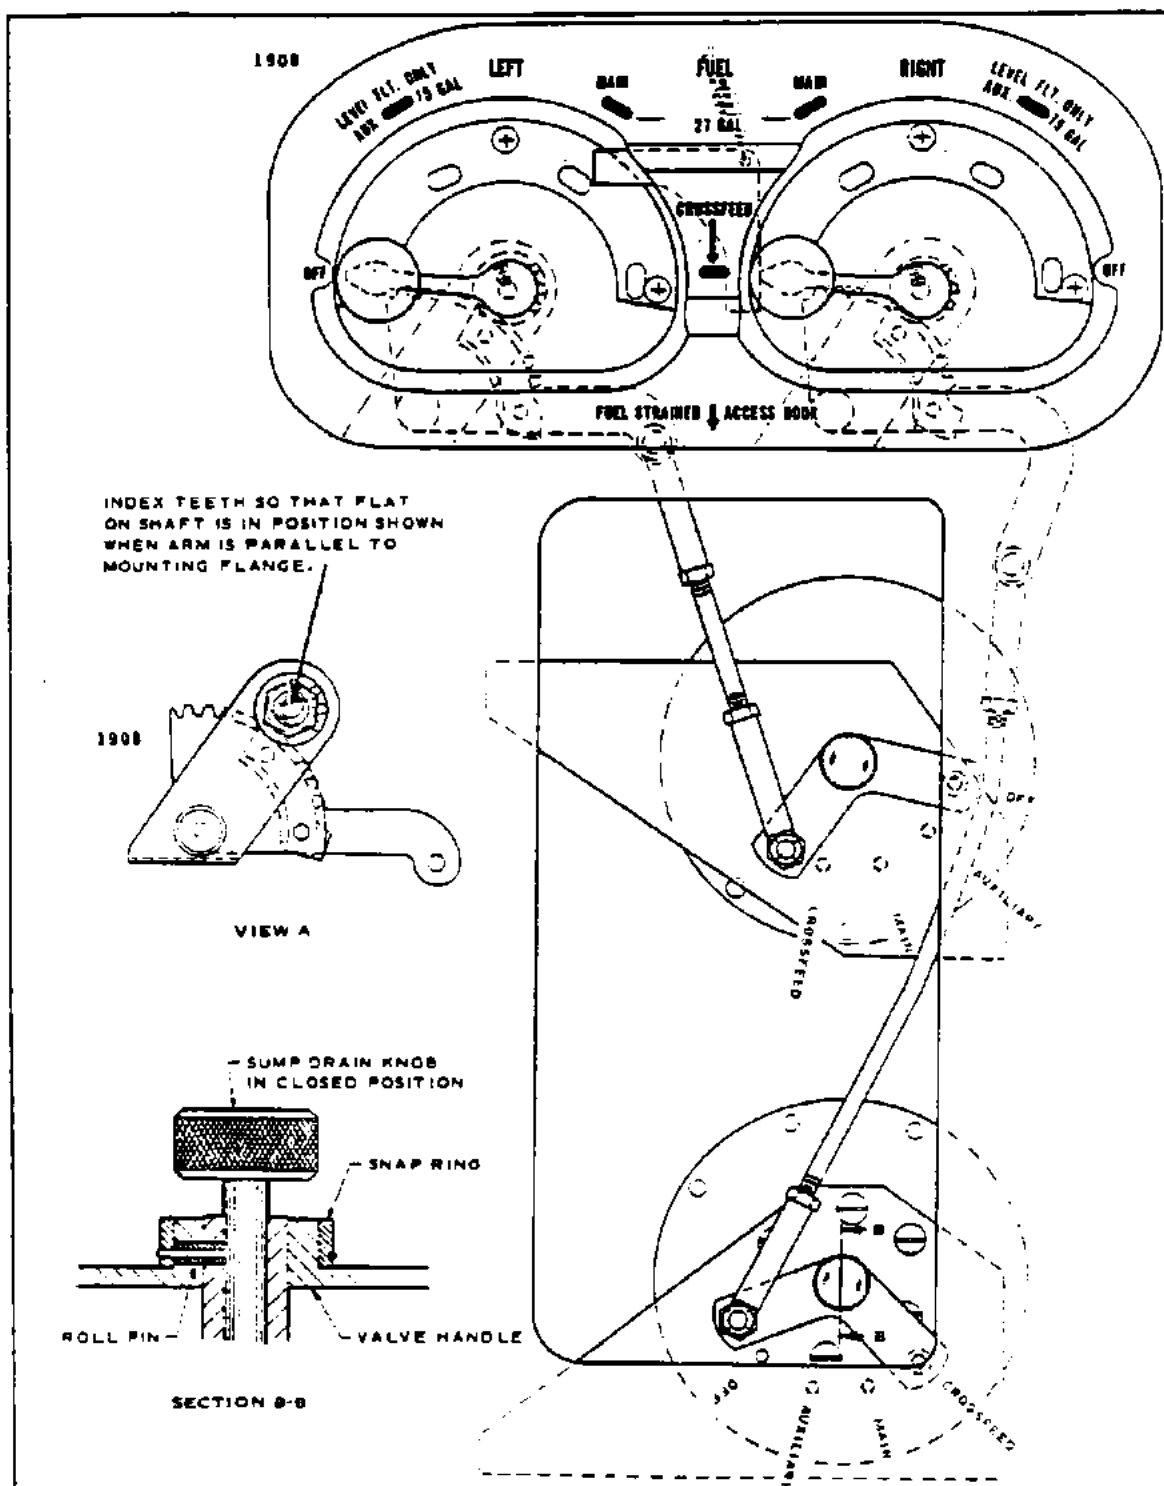

Figure 9-12. Fuel Selector Valve Control Installation
(Refer to Figure 9-12.)
9-22. ADJUSTMENT OF FUEL SELECTOR VALVES. (Refer to Figure 9-12.)
- i. Install the fuel selector valve control assemblies and secure with screws, washers and nuts. (Refer to Figure 9-12.)